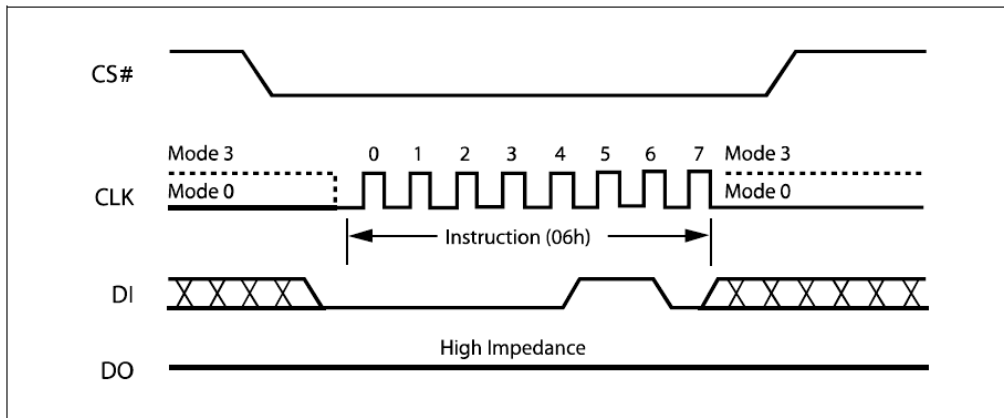

Figure 8. Write Enable Instruction Sequence Diagram
The Write Enable (WREN) instruction (Figure 8) sets the Write Enable Latch (WEL) bit. The Write Enable Latch (WEL) bit must be set prior to every Page Program (PP), Quad Input Page Program (QPP), Sector Erase (SE), Half Block Erase (HBE), Block Erase (BE), Chip Erase (CE), Write Status Register (WRSR) and Write Status Register4 (WRSR4) instruction.